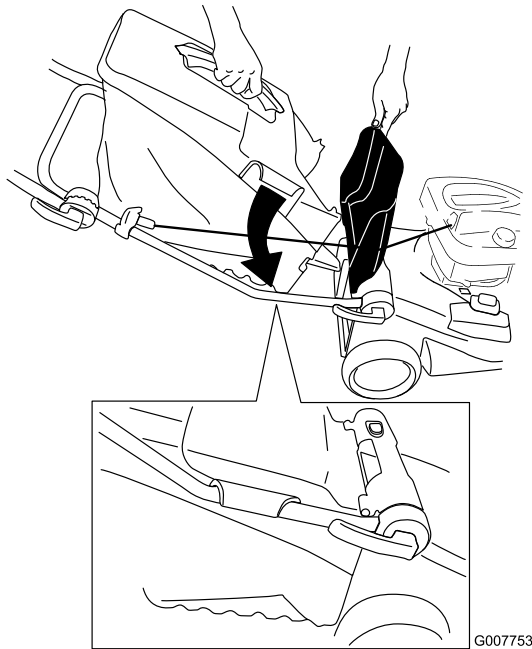

Figure 20
2. Raise and hold up the rear door, install the bag on the handle, and lower the rear door (Figure 20).